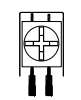

Figure 1:
- Break all in-out wire runs on supervised circuits to assure integrity of circuit supervision as shown in Figure 1.